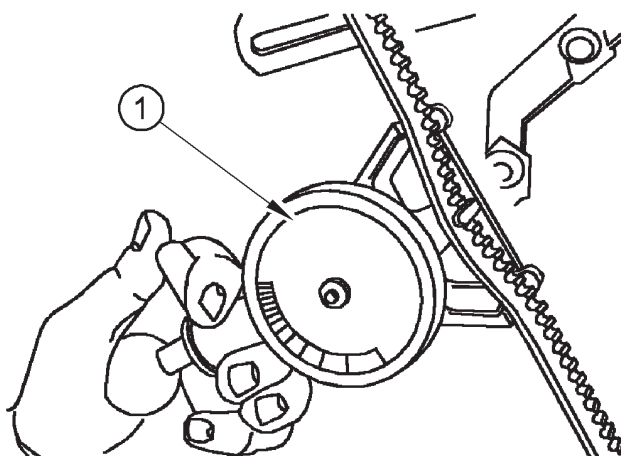

Figure 10
2. To accurately check the belt tension, use a belt tension gauge. Install the gauge (figure 10 item 1) at the centre of the longest free length and check the tension.